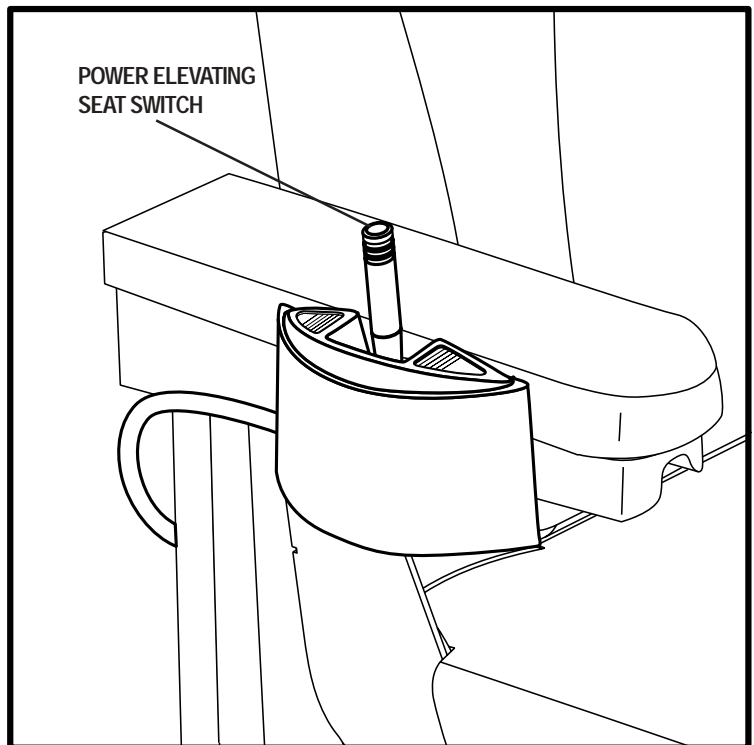

Figure 19. Power Seat Switch
1. Press forward on the power elevating seat switch to raise the seat. See figure 19.